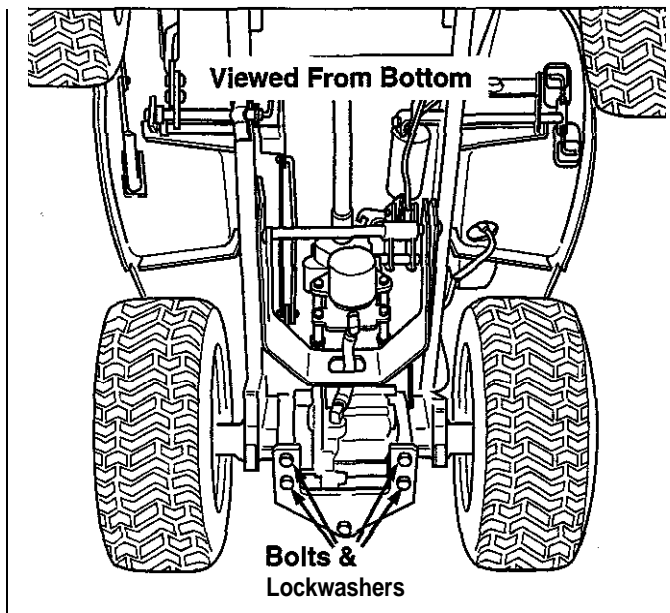

Figure 4. Drawbar Cap screws & Lockwashers
1. Remove the front four cap screws and lock washers securing the drawbar to the transmission (see Figure 4).